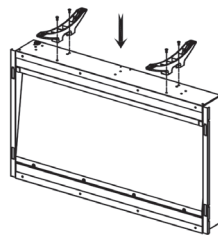

Figure 9
- Make sure the heater base is firmly attached to the heater, then fix the heater base firmly by the four silver fixing screws supplied, as indicated (see Fig. 9).